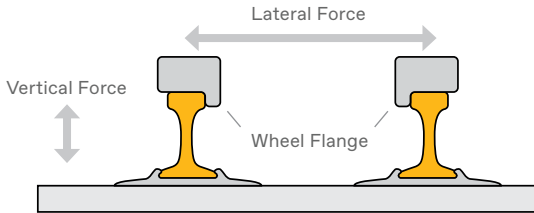

Figure 2
3. Push (spread) the rail out of gauge. **(Figure 2)**